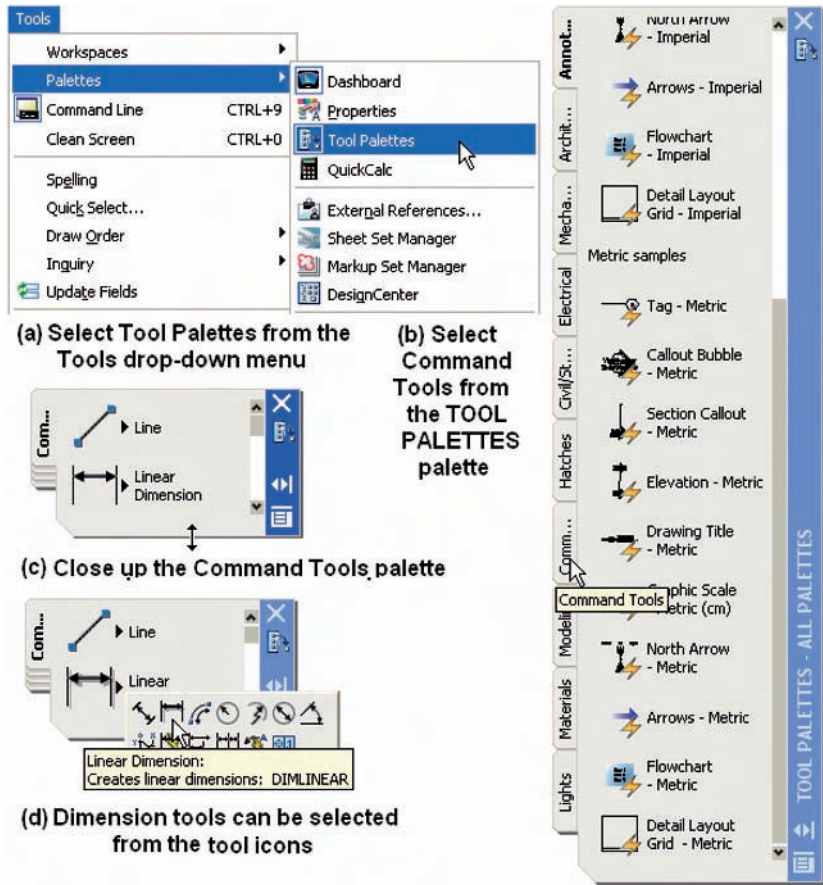

Fig. 6.2 Selecting a palette with dimension tool icons from the **Tools** drop-down menu
2. See Fig. 6.2.
In the flyout from the **Linear tool** icon (Fig. 6.2) it will be seen that there are some dimension tools from this flyout which have not been described in examples. Some operators may prefer *entering* dimensions from the command line. This involves abbreviations for the required dimension such as: